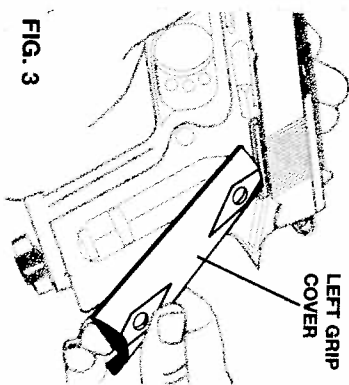

FIG. 3
2. Remove left grip cover by lifting at the bottom of the grip (see Fig. 3).